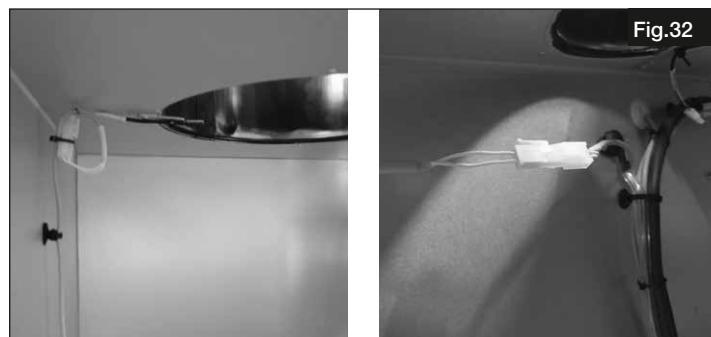

Fig.32
1. Remove the temperature sensor from the supply air side of the AIR1 unit. Plug the extension cable into the socket where you removed sensor (see Fig.32).